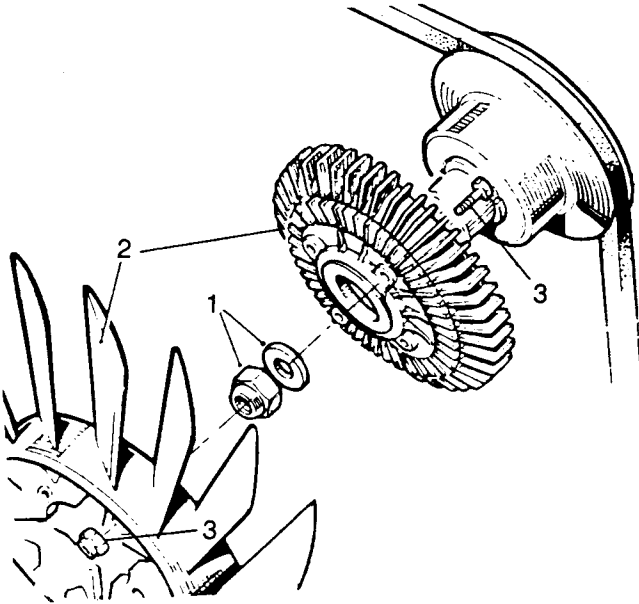

Fig E4.4
(2) Refer to Fig E4.4. Remove the water pump shaft centre nut and washer (1).